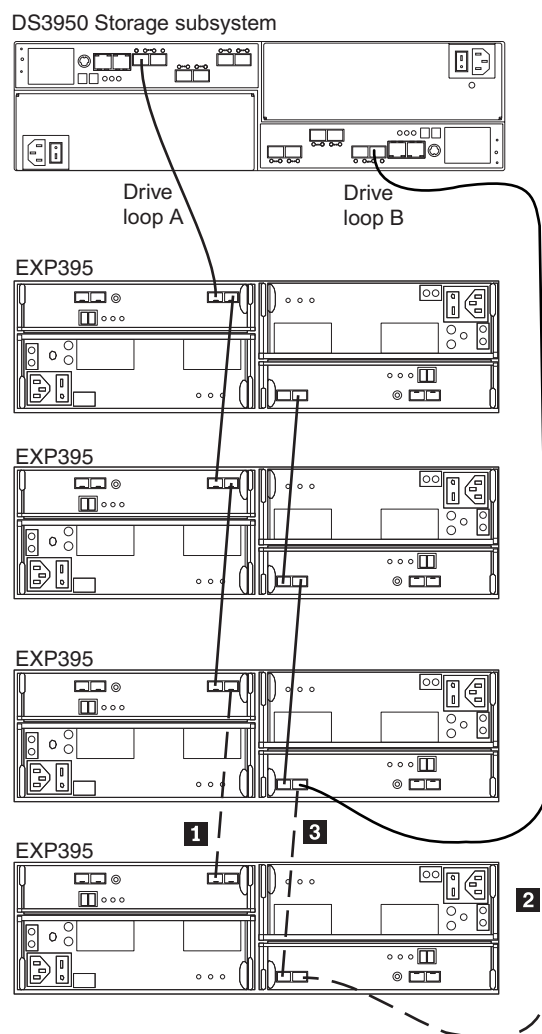

Figure 33. Cabling the EXP395 to an existing and configured drive loop
Figure 33 on page 67 shows an example of a DS3950 storage subsystem configured with redundant drive loop pairs.
The dashed lines in Figure 33 show how to add a new EXP395 to an existing DS3950 configuration with EXP395s. To add the new EXP395 shown in Figure 33, perform the following steps:
4. Make the fibre-channel connection marked **1** in Figure 33 (drive loop A) by connecting port 1A of the existing EXP395 to port 1B of the new EXP395 . Then verify that it is recognized by the DS Storage Manager software GUI.
5. Move the existing fibre-channel connection marked **2** in Figure 33 from the existing EXP395 enclosure ESM port 1B to the new EXP395 enclosure ESM port 1B.
6. Make the fibre-channel connection marked **3** in Figure 33 (drive loop B) by connecting port 1A of the new EXP395 to port 1B of the existing EXP395.